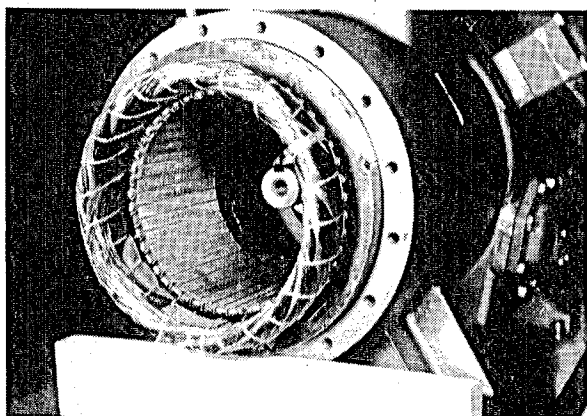
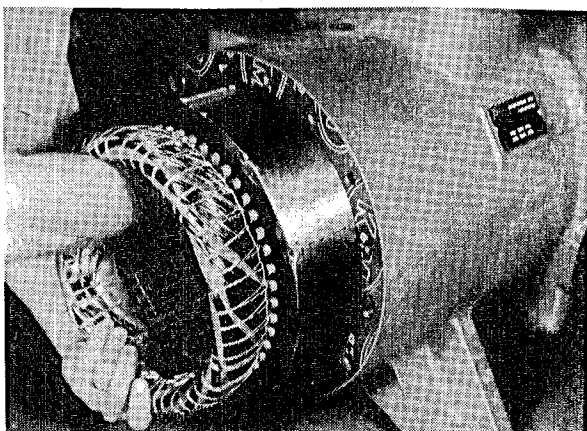

Figure 48
Figure 49
6. To support stator weight, provide cribbing next to the housing (Figure 48). Grasp the stator windings with both hands and pull the stator out of the housing (Figure 49). Guide the motor leads to prevent damage as the stator is pulled outward. A sharp rap on the side of the motor barrel with a plastic hammer may be necessary to start the stator moving.
1. Start the stator into the housing (Figure 49) guiding the motor leads up through the housing. Follow the guideline until the stator bolt hole in the stator and housing match.